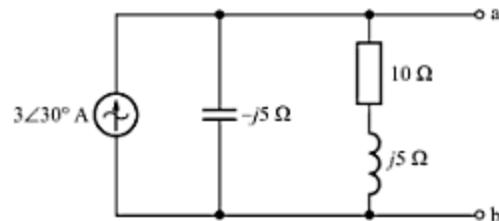

Fig. C-45
- C-42.** For the circuit shown in Fig. C-45, find (a) the open-circuit voltage \mathbf{V}_{ab} , (b) the downward current in a short-circuit between a and b, and (c) Thevenin's equivalent impedance \mathbf{Z}_{ab} in parallel with the current source.